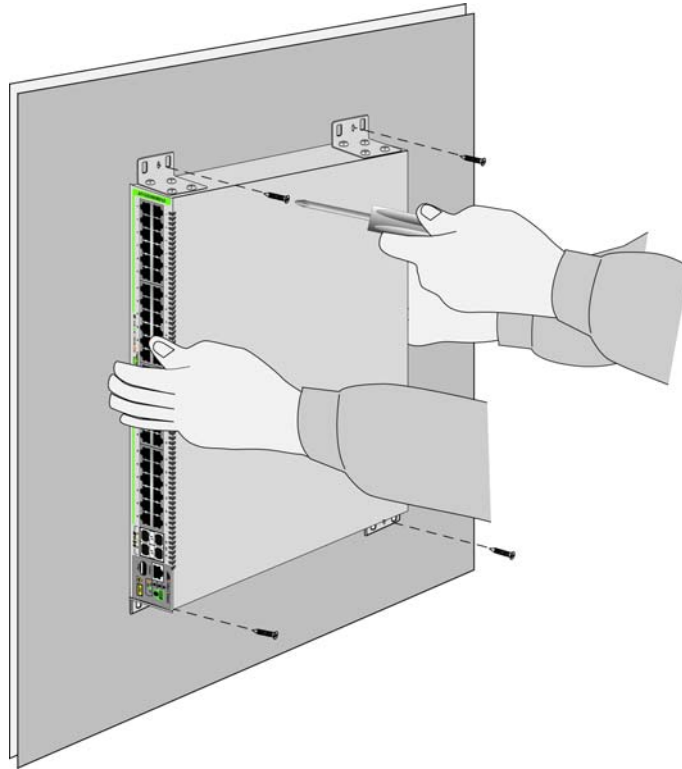

Figure 29. Installing the Switch on a Concrete Wall
7. Have another person hold the switch at the selected wall location while you secure it to the wall with the four M4x32mm provided screws. Refer to Figure 29 on page 68.